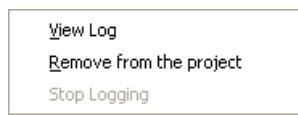

Figure 4.37 Log file right-click menu
- in the Project Workspace window (Logs tab) right-click on the log file you want to delete to invoke the pop-up menu shown in figure 4.37;
- a) right-clicking a log file in the Project Workspace window (Logs tab) to invoke the pop-up menu shown in figure 4.37;
- a) right-clicking the log file marked with an "L" in the Project Workspace window (Logs tab) to invoke the pop-up menu similar to figure 4.37;